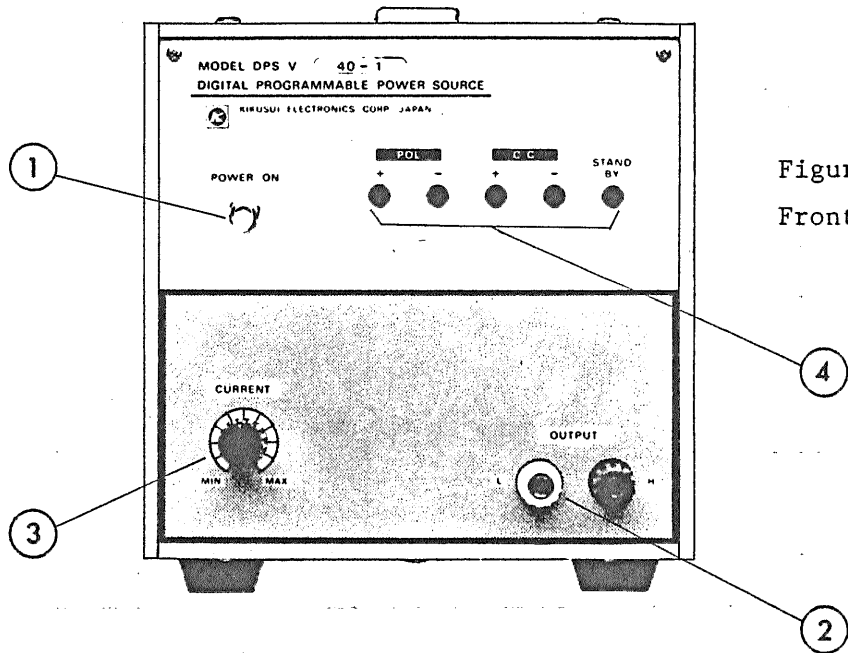

Figure 3-1.
3.1 Description of Front Panel (See Figure 3-1.)
① POWER switch: